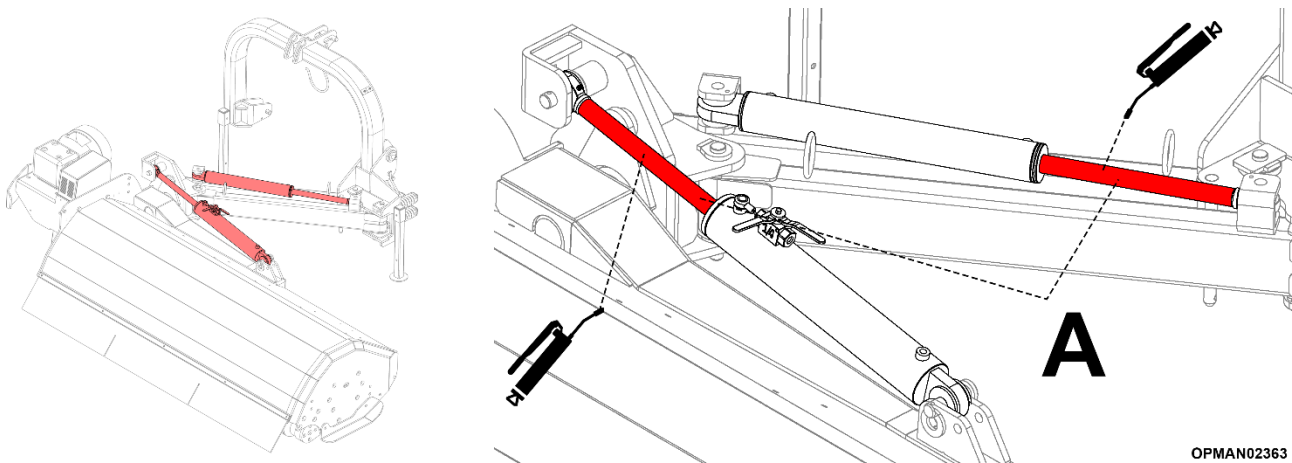

Figure 6
- With reference to Figure 6; place the machine into a suitable and stable position and liberally coat any exposed chrome plated hydraulic ram rods on the machine (A) in a suitable corrosion prevention product to protect the chrome plated components from corrosion.